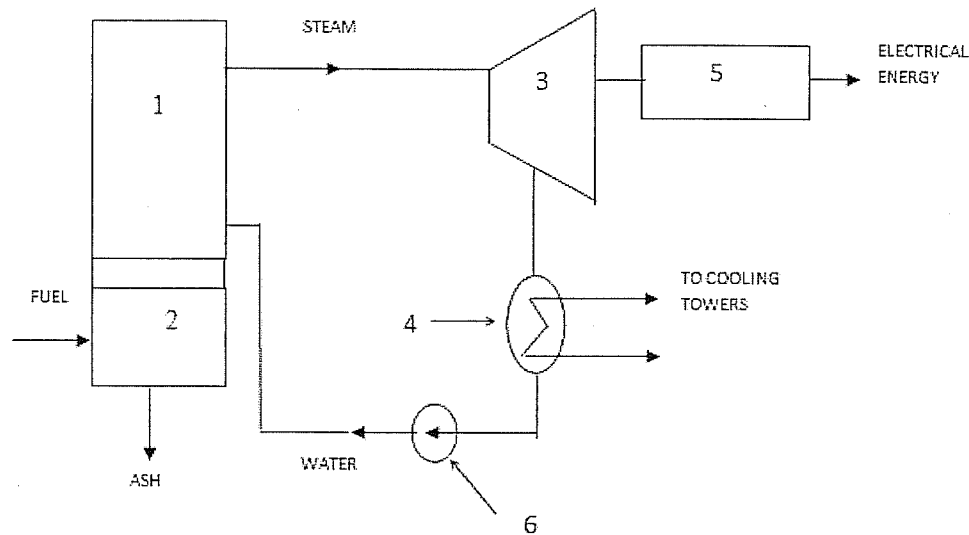

Figure Q1
- i) A schematic diagram of a Conventional Thermal Power plant is shown in Figure Q1. Identify components 1-6 and briefly describes the operating principle of that power plant [6 Marks]